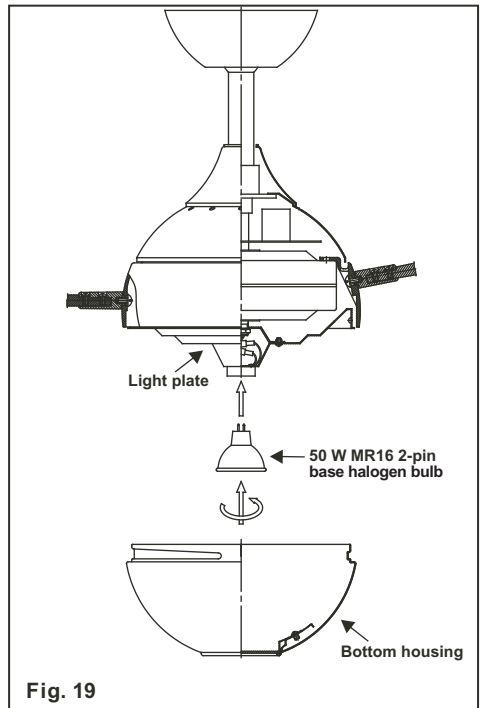

Fig. 19
Step 1. Install 50W MR16 2-pin base halogen bulb. (Fig. 19).
Step 2. Install the bottom housing by carefully turning it clockwise until snug. **DO NOT OVERTIGHTEN.** (Fig. 19)
A DOWNWARD airflow creates a cooling effect as shown in Figure 19. This allows you to set your air conditioner on a warmer setting without affecting your comfort.